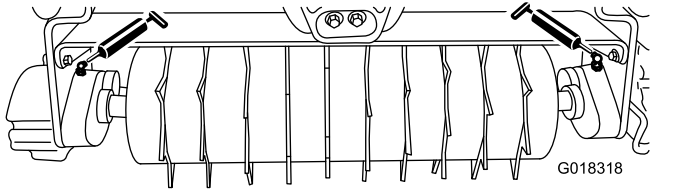

Figure 6
Lubricate the 2 grease fittings (Figure 6) on each spiker unit after every 15 hours of operation using a No. 2 lithium grease. For best results, use a hand-operated grease gun.
2. Wipe each grease fitting (Figure 6) with a clean rag.